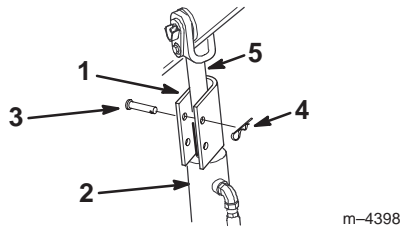

Figure 18
4. Position a loader arm cylinder lock over each lift cylinder rod (Fig. 18).
5. Secure each loader arm cylinder lock with a clevis pin and cotter pin (Fig. 18).